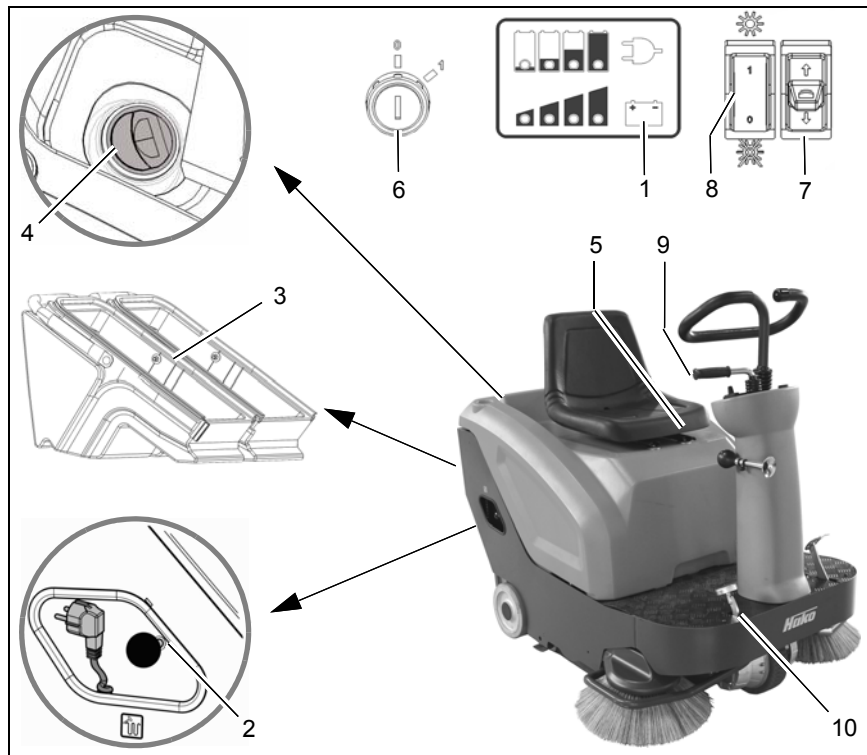

Fig.12
- Check the charge status indicator (Fig. 12/1) of the batteries
- Clean the filters using the shaking device (Fig. 12/2)
- Empty the dirt hoppers (Fig. 12/3)
- Open the bypass flap (Fig. 12/4) in the case of wet refuse.
- Check the adjustment of the driver's seat (Fig. 12/5)
1. Switch the vehicle on with the key switch (Fig. 12/6).
2. Select the driving direction with the drive direction switch (Fig. 12/7). Release parking brake.
3. Switch on the sweeping functions with the switch (Fig. 12/8).
4. Lower the side broom using the lever (Fig. 12/9).
5. Actuate the accelerator (Fig. 12/10) and drive over the area to be